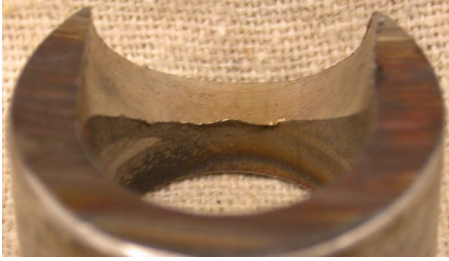
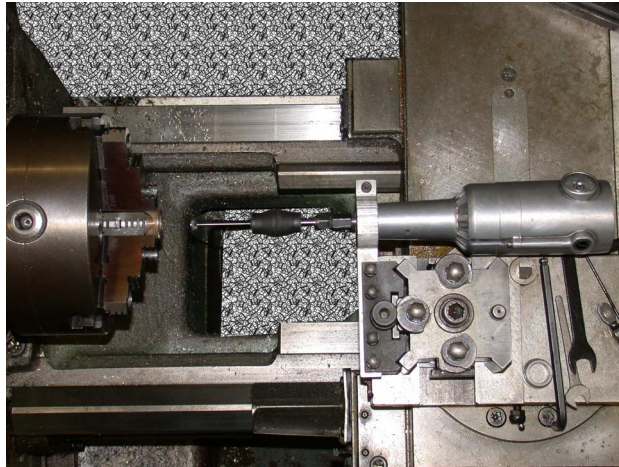

Figure 1
Figure 2
Test part (Figure 1: Supplied by J.W. Done)
1. Place the part (figure 1) into 3 jaw chuck on a manual lathe as shown in figure 2.